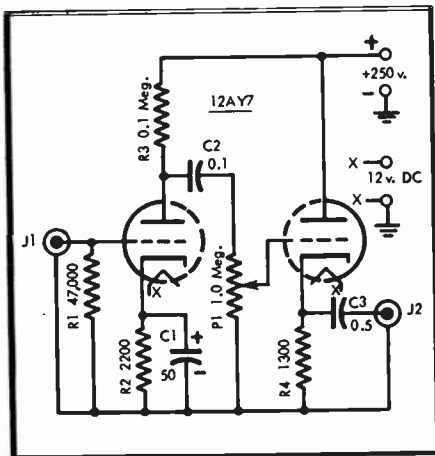

Figure 1
A. Figure 1 should solve your problem.